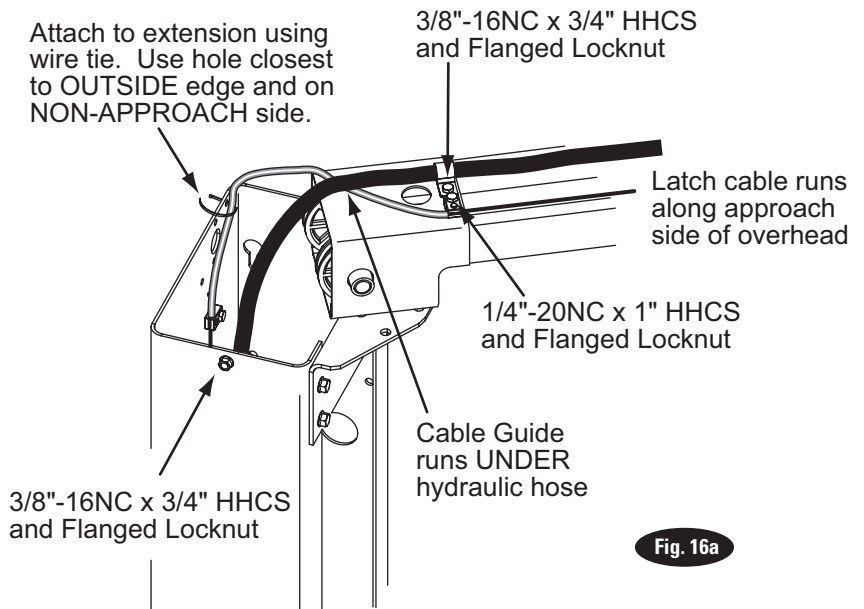
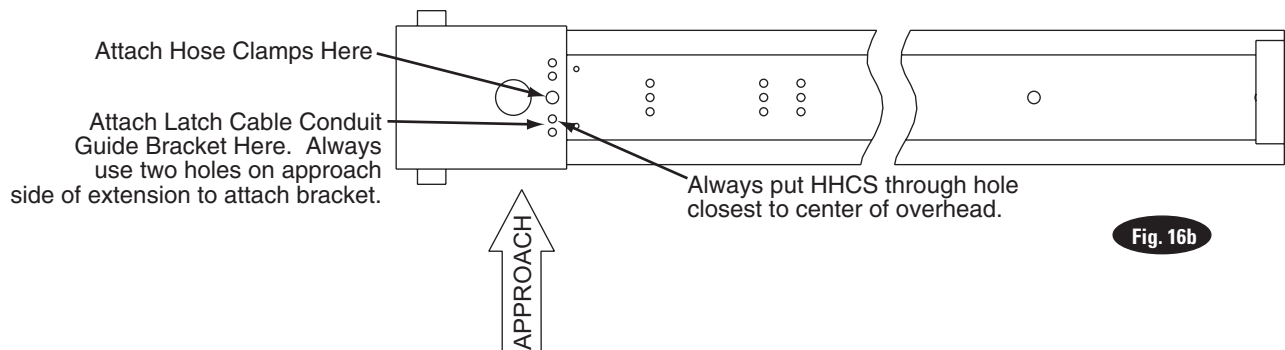
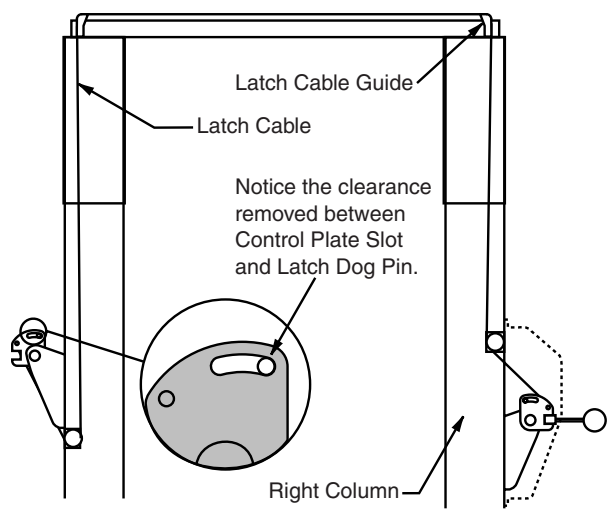
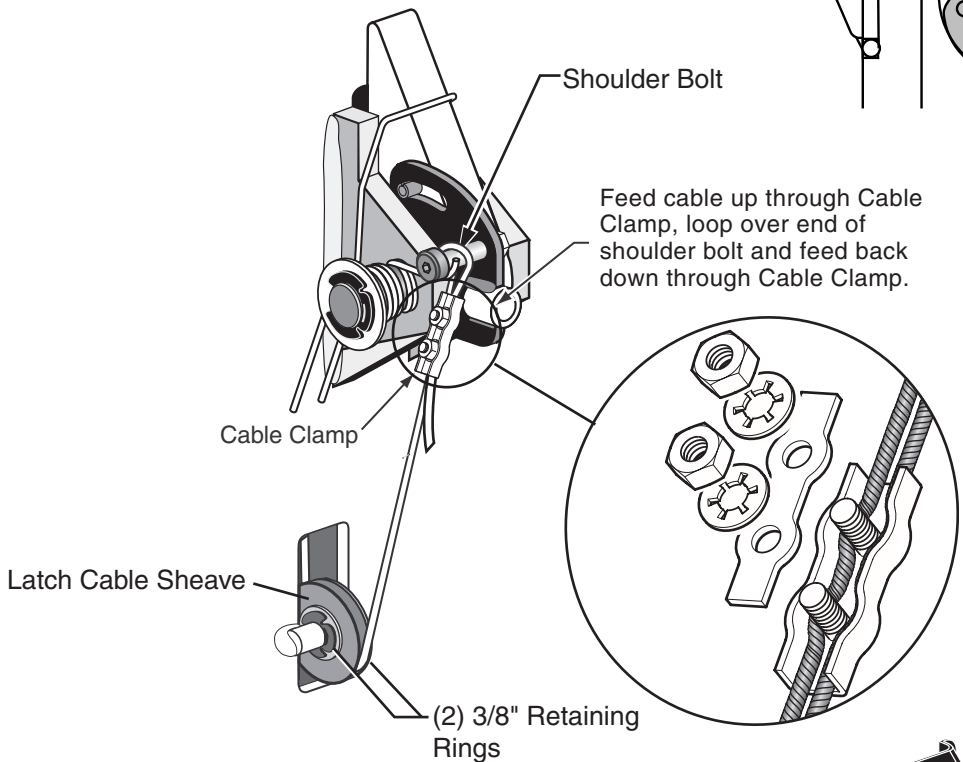

Fig. 16a
Fig. 16b
Fig. 18
Fig. 19
- D) Attach latch cable conduit guide brackets to overhead as shown, Fig. 16a & Fig. 16b. Always use the holes on the approach side of the lift. HHCS should be in hole nearest the center of the overhead, Fig. 16b.
- E) Route cable up inside column and through the latch cable guide, Fig. 16a & Fig. 18.
**IMPORTANT** Using wire ties provided, tie off cable guide to column extension as shown, Fig. 16a. Guide must be attached in hole closest to the outside edge of the column on the NON-APPROACH side.
- F) Continue routing cable to the left column latch cable guide, Fig. 16a & Fig. 18, routing the cable through the left column latch cable guide, Fig. 16a.
- G) Bring the cable down inside the left column and feed the end of the cable through the lower latch cable sheave slot so that the cable is now back outside the column, Fig. 19.
- H) Install latch cable sheave and retaining rings in lower slot of non-power unit column as shown, Fig. 19.
- I) Route cable under the bottom side of the latch cable sheave, Fig. 19.
- K) Insert cable in cable clamp along one side, loop around shoulder screw and back down, inserting cable along other side of cable clamp, Fig. 19. Place top back on clamp, barely tightening.
- L) Next, pull the control plate down, Fig. 18 & Fig. 19, to eliminate any clearance between the control plate slot and the latch dog pin, Fig. 18.